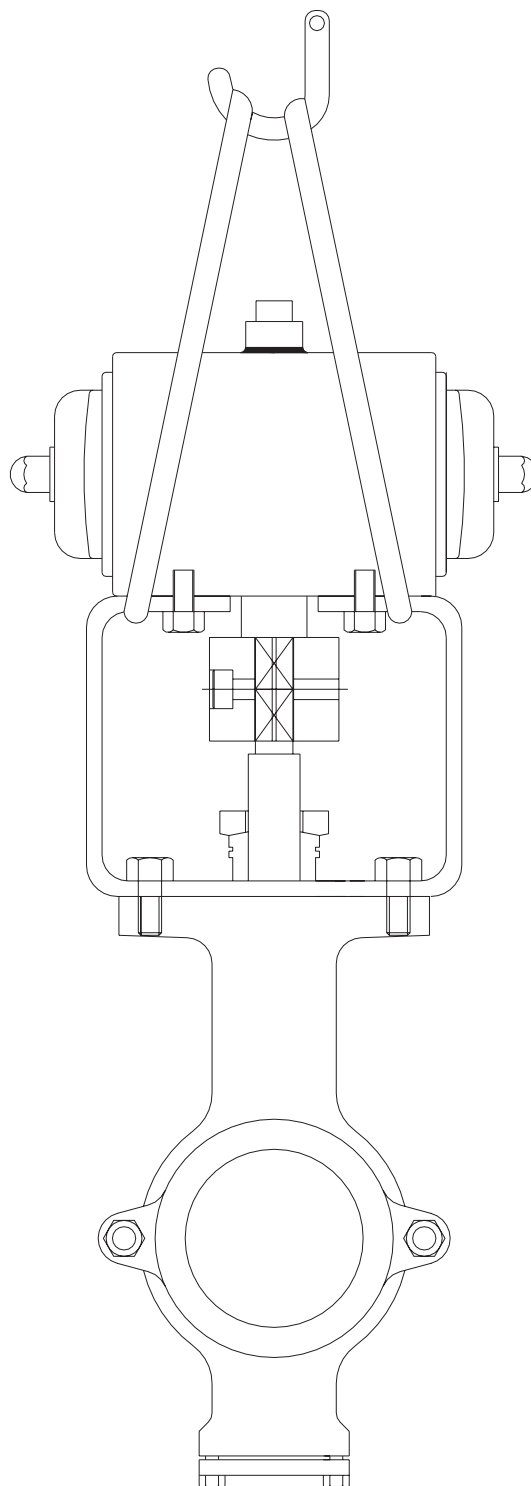

Fig. 1
- Lift the Valve properly as shown in figure 1
Valve should be lifted by using chain or bearer cables as shown in figure 1. (Take care that Valve should not damage while handling).